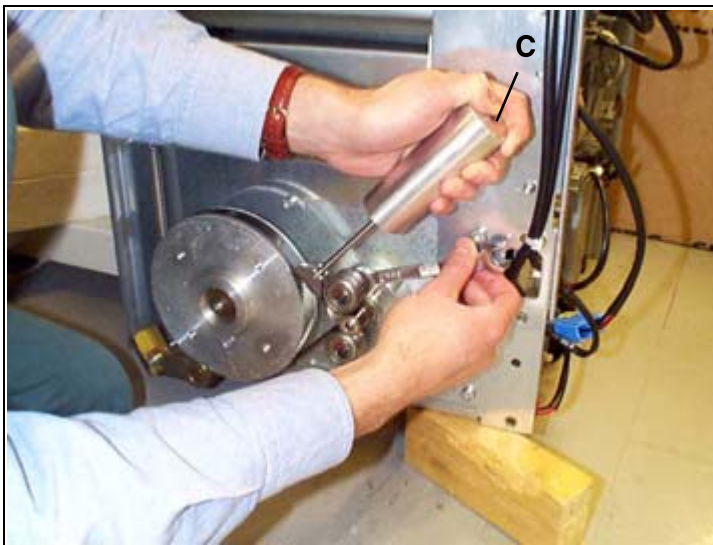

Fig. 78: Belt\_adjustment\_new
- Press the special adjustment mechanism on the transmission belt and hold one finger on the top. When the button (C/Fig. 78 / p. 82) is the same height as the upper part of the adjustment mechanism, the pressure is adequate.